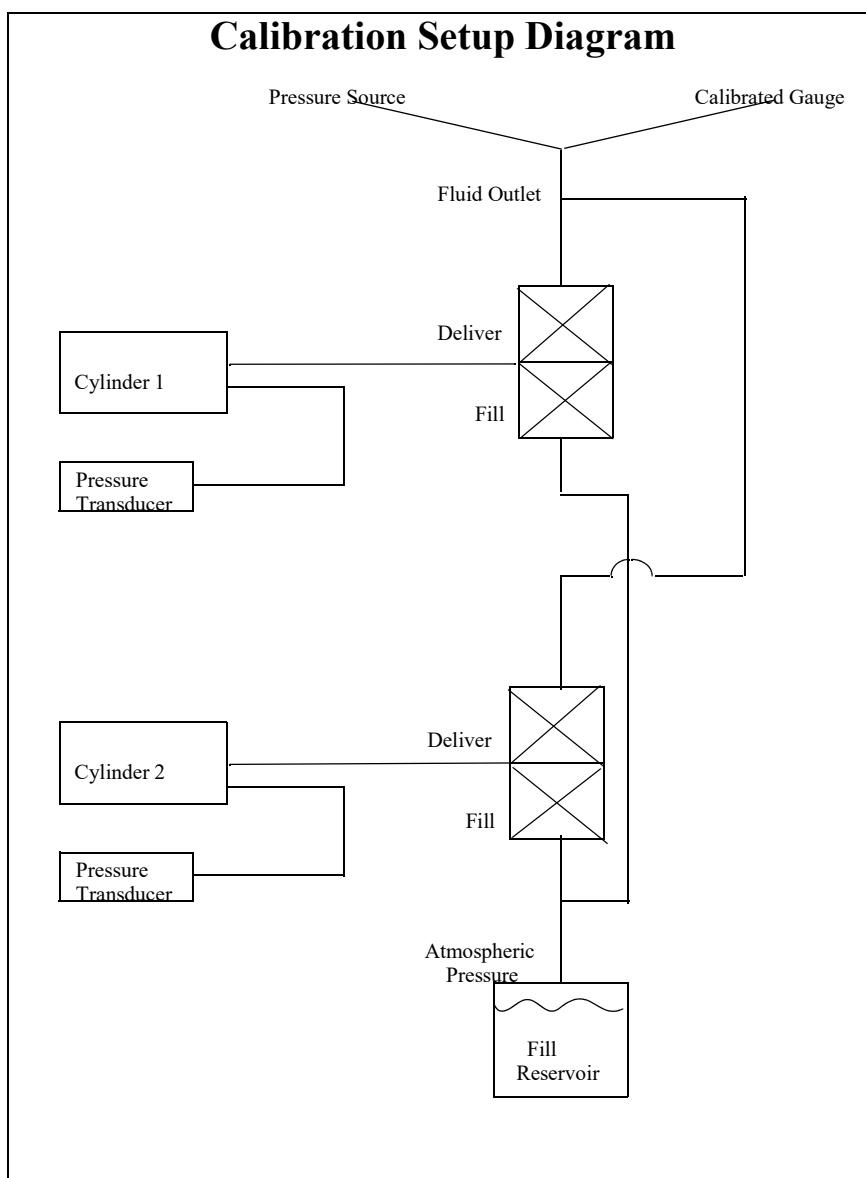

Figure 13-15 Calibration Setup Diagram
1. As shown in the Calibration Setup Diagram in Figure 13-15, connect a calibrated gauge (CG) to the fluid outlet of your Quizix Pump System. Be sure your fill valves are connected to a fill reservoir at atmospheric ("zero gauge") pressure.
1. As shown in the Calibration Setup Diagram in Figure 13-15, connect a calibrated pressure source (PS) to the fluid outlet of your Quizix Pump System. Be sure your fill valves are connected to a fill reservoir at atmospheric (“zero gauge”) pressure.